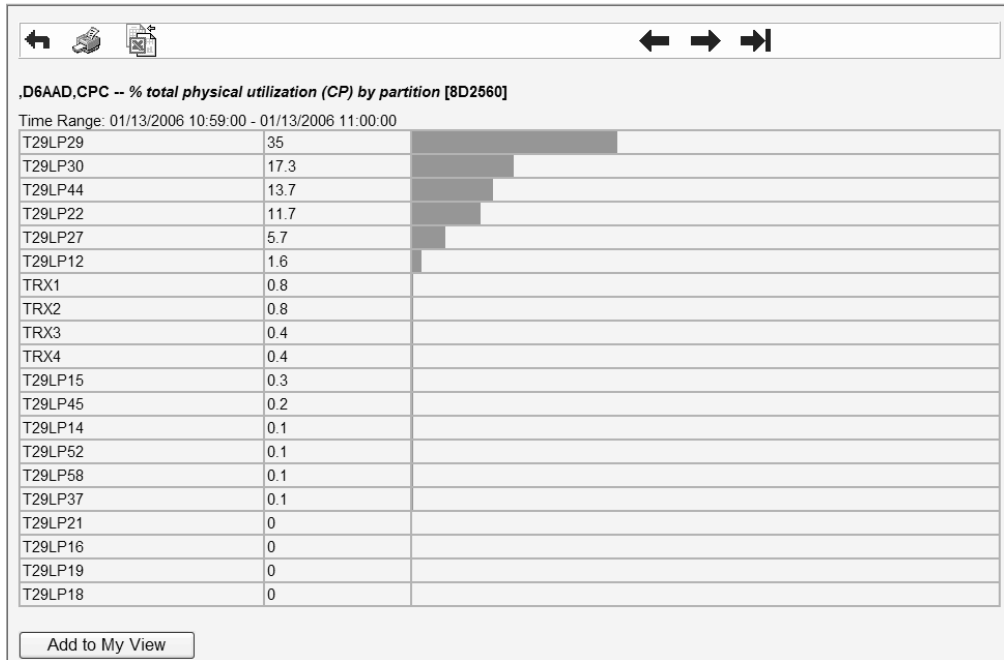

Figure 150. Total utilization of the processors by partitions
If you want to know the total utilization of the physical standard processors by the partitions in the CPC, click on *% total physical utilization (CP) by partition*. Clicking on this metric opens another view presenting the desired results, in our example, a list of partitions, showing the percentage of utilization for each (Figure 150 on page 254).